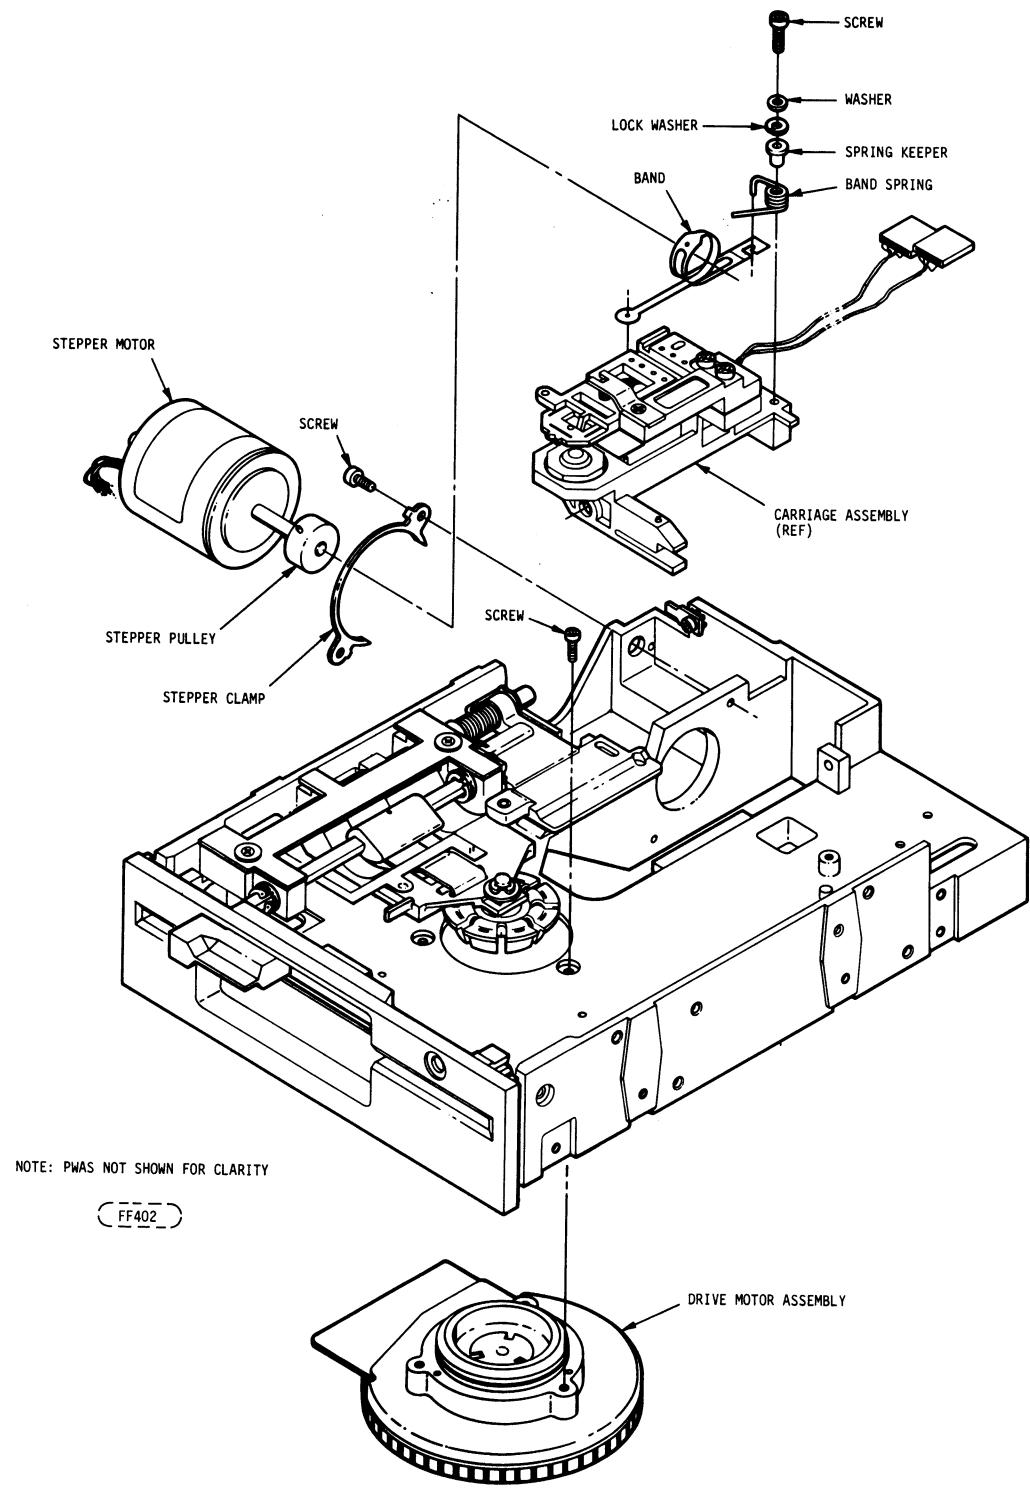

FIGURE 6-8. DRIVE MOTOR REMOVAL
- h. Change the scale of Channel 1 and Channel 2 to 0.02 volts/div. Move the trace on the scope (Position Knob) up until the bottom of the two lobes are setting approximately on the base line (refer to Figure 6-5). Loosen the stepper motor mounting screws (see Figure 6-8) and slowly rotate the stepper motor until the amplitude of both lobes is the same.
- b. Remove three (3) screws securing the spindle motor (Figure 6-8).